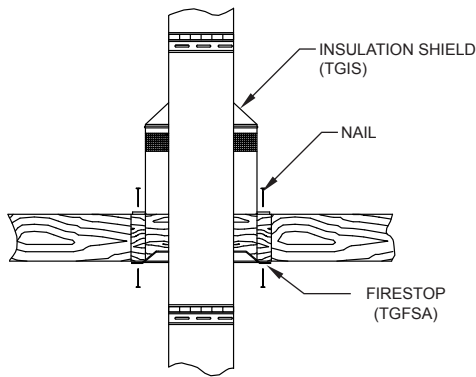
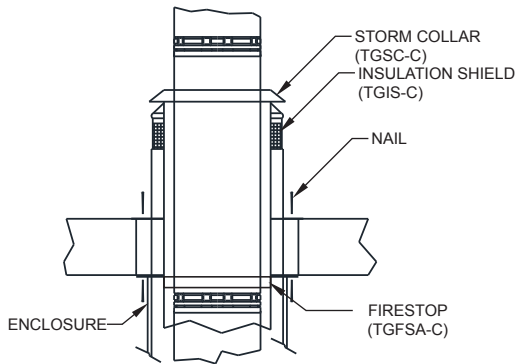
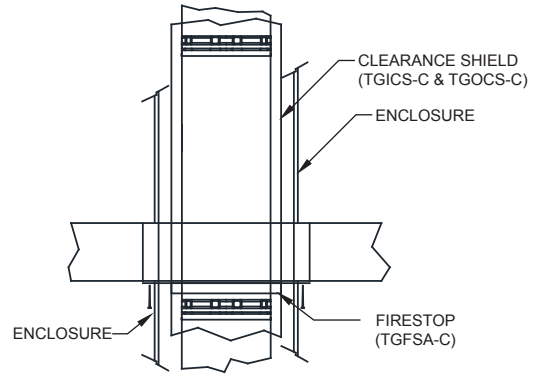

FIG. 6: CHIMNEY IS ENCLOSED BELOW THE ATTIC
FIG. 6a: CHIMNEY IS ENCLOSED BELOW THE ATTIC AND ATTIC IS UNENCLOSED
FIG. 6b: CHIMNEY IS ENCLOSED BELOW THE ATTIC AND ENCLOSED IN THE ATTIC
8. The first chimney section through the joist area into attic is to be approximately two (2) feet. If the pipe sections in the levels below and in the attic are not enclosed an insulation shield (TGIS) must be installed. The vertical height of the attic insulation shield above attic construction material should accommodate the amount of insulation as required by the national building code. Lower insulation shield (TGIS) over TG pipe until the flange is resting on the joist. Secure the (TGIS) in place by nailing the flange to the joists. (See **FIG. 6**). If the pipe sections in the levels below the attic are enclosed and the attic is unenclosed an insulation shield (TGIS-C) must be installed. The clearance shields (TGICS-C & TGOCS-C) must extend through the joist area and insulation shield (TGIS-C). The clearance shields (TGICS-C & TGOCS-C) will terminate above the insulation shield (TGIS-C) and a storm collar (TGASC-C) must be used to close the gap between the TG chimney and clearance shields preventing insulation and debris to fall between them (See **FIG. 6A** and **FIG. 6b**). If the pipe sections are enclosed through the attic, no insulation shield is required. The clearance shields will need to extend up through the flashing.